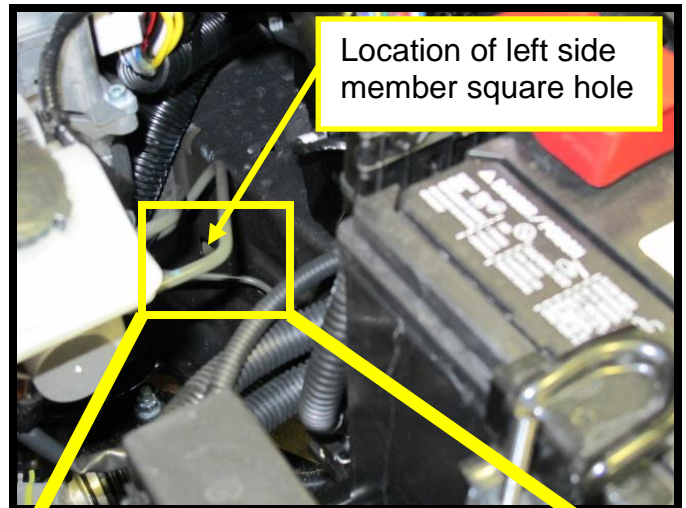

Figure 1
2. Locate the square hole in the left (driver) side member (frame rail area) as shown in Figure 1.